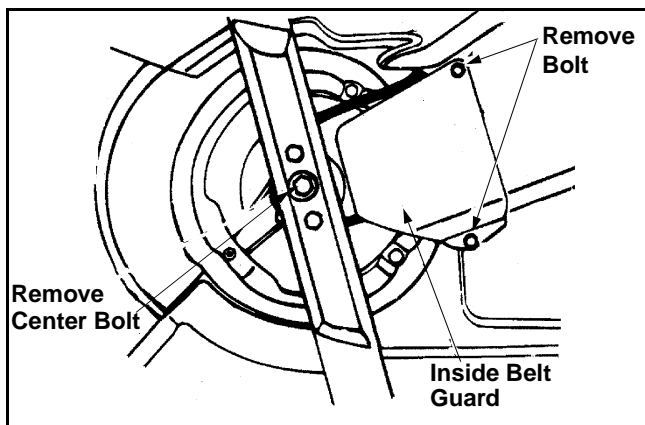

Figure 13
- Remove the belt guard under the deck by removing two self-tapping screws. See Figure 13.